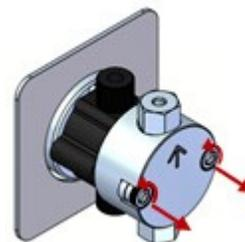

Figure 6: Removing the fasteners
1. Remove the two pump head fasteners using a $\frac{3}{16}$ " hex wrench (Figure 6).